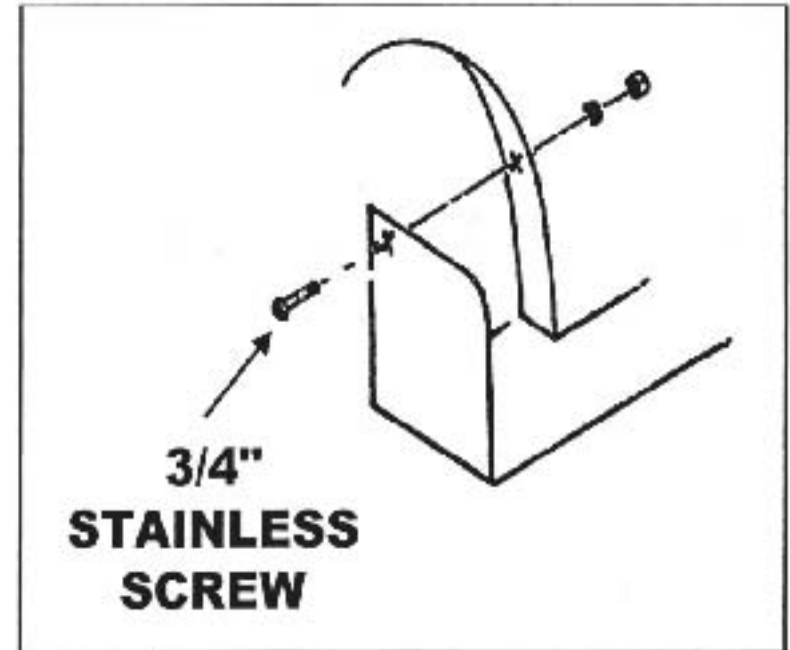

Figure 2
4. Drill a 1/4" hole through the corner of the front panel and the body of the cart. Secure front panel using 1 ea 1/4" stainless screw and 1/4" flat washer and Nylok nut. (Figure 2). Repeat for other side.